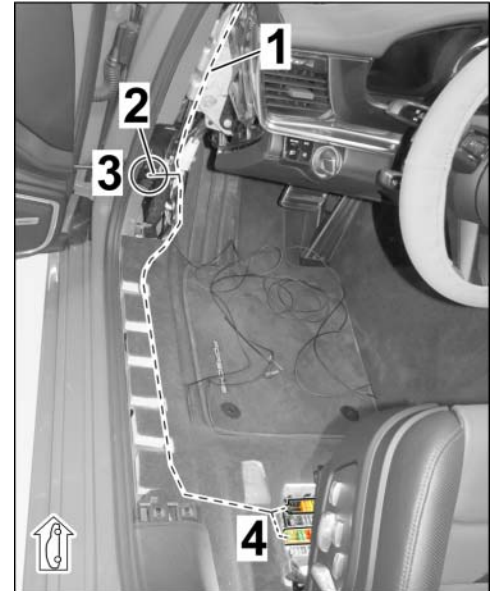

Figure 15
3.2.6 Route the rest of the wire harness as follows ( $\Rightarrow$  Figure 15):